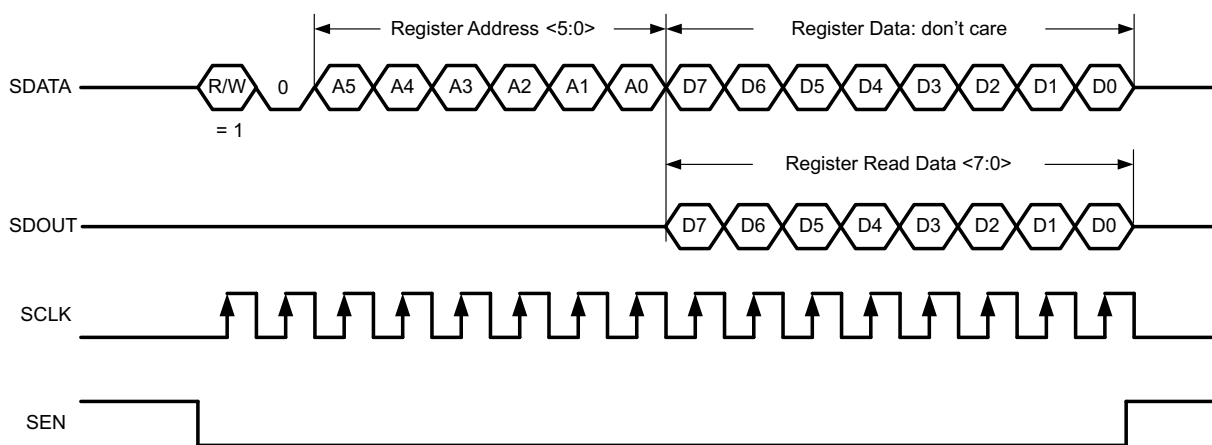
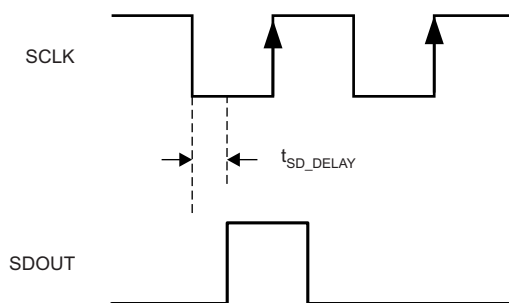

图 51. Serial Register Readout Timing Diagram
图 52. SDOOUT Timing Diagram
2. Write the register address on bits A5 through A0 whose contents must be read. See 图 51.
When serial registers are enabled for writing (when bit A7 of the 8-bit address bus is '0'), the SDOOUT pin is in a high-impedance mode. If serial readout is not used, the SDOOUT pin must float. 图 51 shows a timing diagram of this readout mode. SDOOUT comes out at the SCLK falling edge with an approximate delay ( $t_{SD\_DELAY}$ ) of 20 ns, as shown in 图 52.